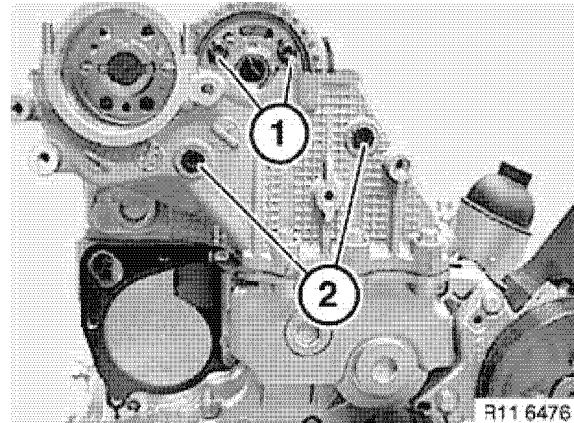

Figure 5-97
- Remove two remaining screws (1, **Figure 5-97**).
- Remove two guide rail bearing pins (2, **Figure 5-97**).